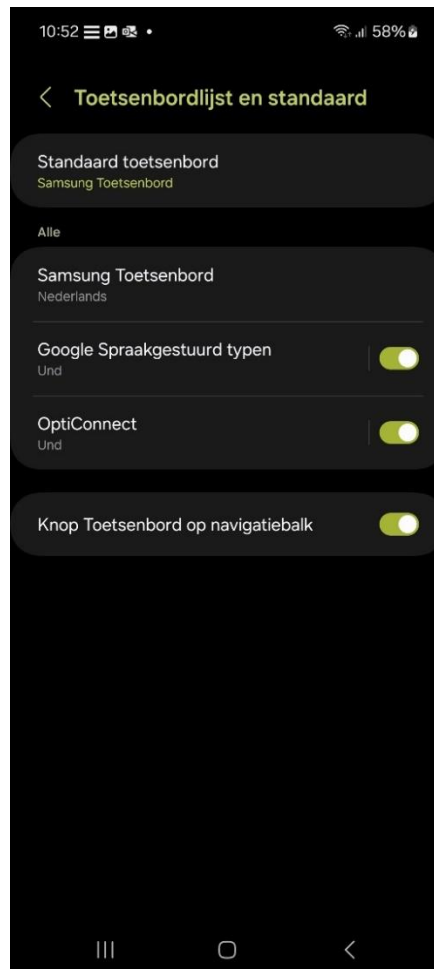

Figure 10-2: The Android *Keyboard list and default* page where the OptiConnect keyboard should be enabled.
- Tap on the *Enable Virtual Keyboard* button to activate the OptiConnect Virtual Keyboard (see Figure 10-2).